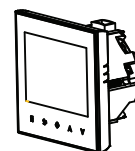

Fig 6
Step 6. Installation complete. See Fig 6.